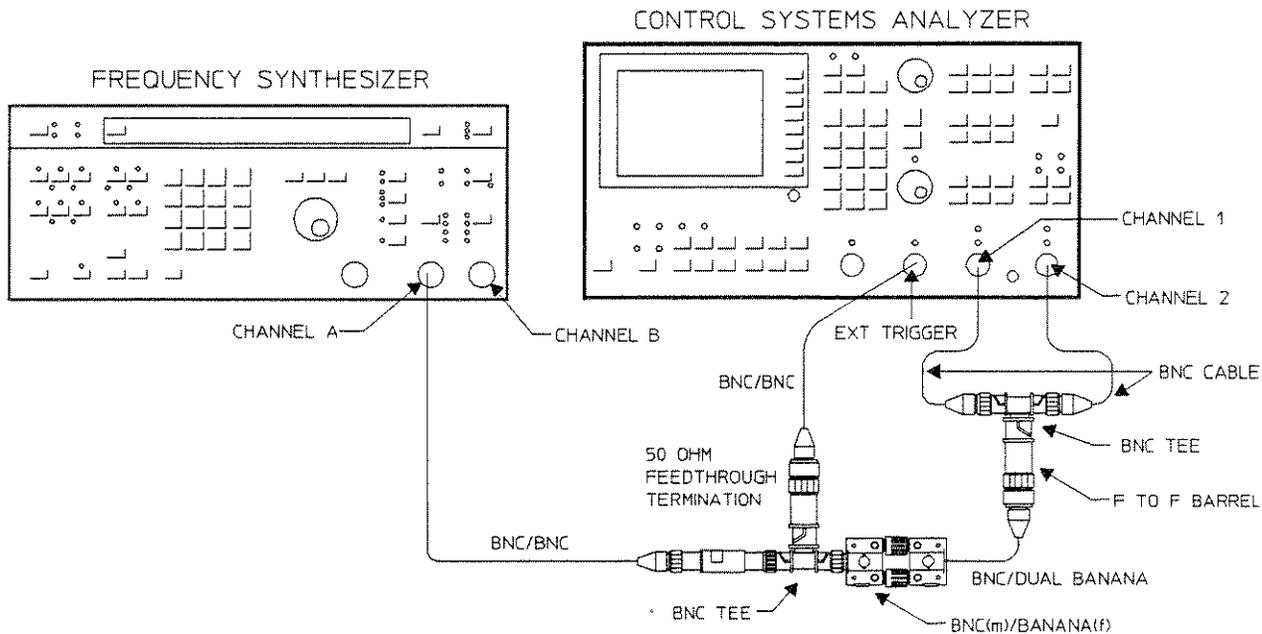

Figure 4-11. Single Channel Phase Accuracy Test Setup
1. Connect the test instruments as shown in Figure 4-11.